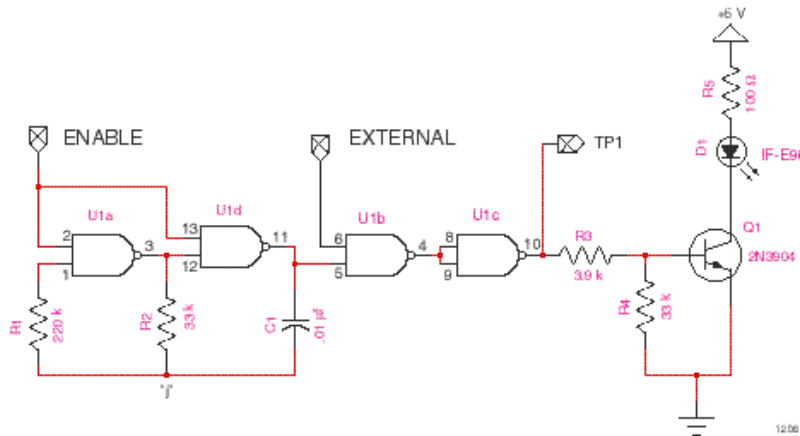

Figure 9. Transmitter board schematic.
- A5.** *In electronic design, multiple circuits often will achieve the same design goals. We'd now like you to design an alternative electronic LED drive circuit that will accept an external and oscillator input signal. Draw that circuit below. You may use **Figure 9** as a reference.*
- A6.** *What is the minimum output voltage at Gate **d** in **Figure 9** necessary to ensure saturation of the LED drive NPN transistor? (Assume $h_{fe} = 50$; $V_{ce} = 0.2$ volts; $V_{cc} = 5$ volts; and $V_{LED} = 1.5$ volts.)*